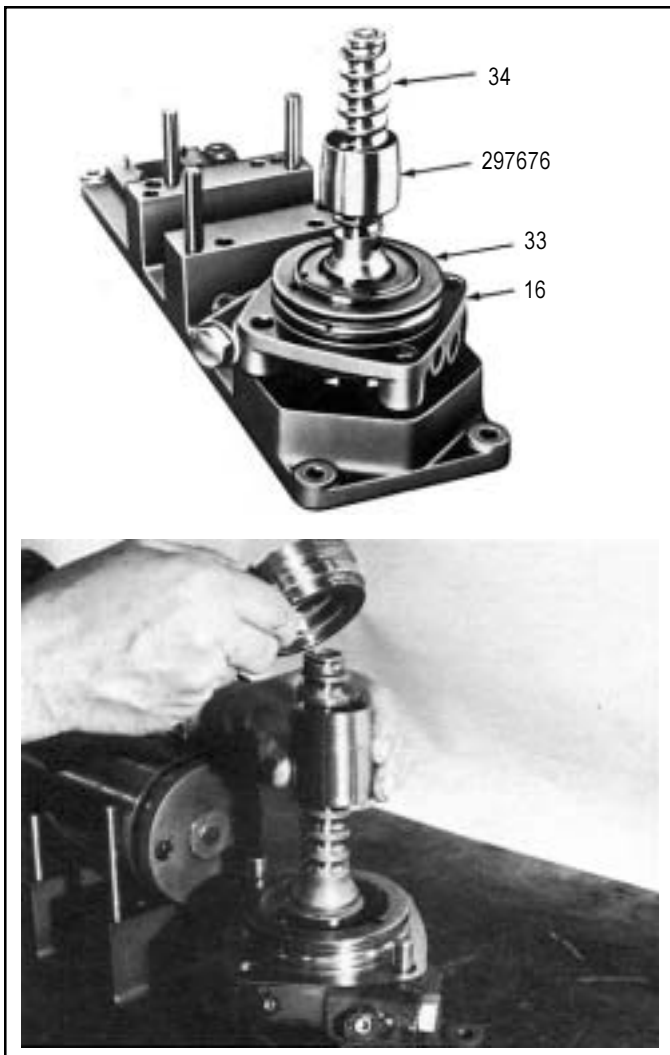

FIGURE 35
Without removing tool 297676, insert the nut(33) into the valve body(16), screw and tighten it to a torque of 330 ft. lbs. with a spanner wrench. (See Figure 35)